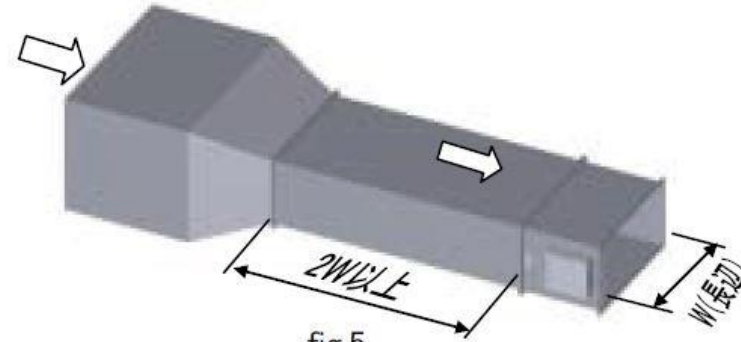

fig.5
⑤ If hopper comes upstream of the unit, apply straight duct as shown in fig.5.